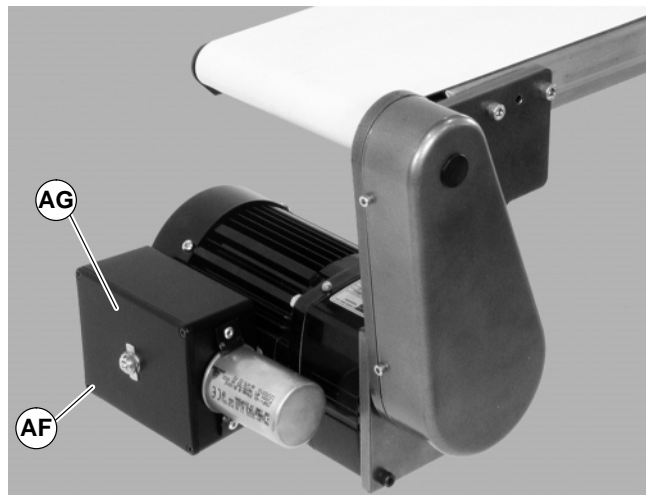

Figure 12
- a. Loosen terminal box screws (AF of Figure 12) and remove cover (AG).